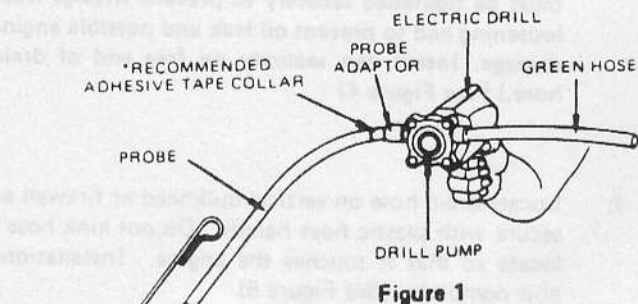

Figure 1
2. While engine oil is heating, attach probe adaptor and dipstick probe to suction port of pump\*. Slip green hose on discharge port of pump. Secure pump shaft in electric drill chuck. (See Figure 1)
3. Turn off engine. Run probe through fingers several times to straighten it. Remove dipstick and insert probe into dipstick tube till it bottoms. To prevent probe from making a return bend, gage approximate length of insertion by measuring against dipstick. If probe cannot be inserted in dipstick tube, drain oil in conventional manner. (See Figure 1)